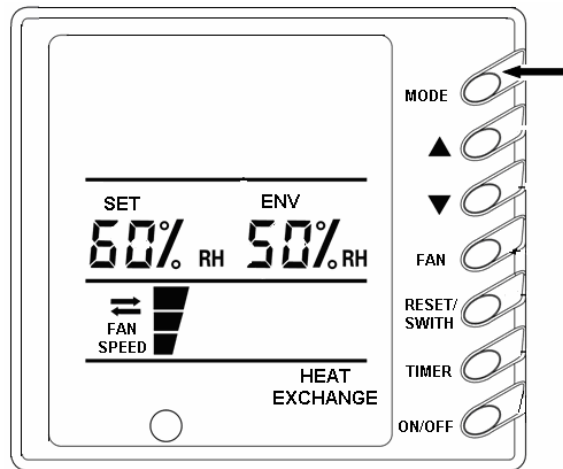

Fig.7
5) Running Mode Setting (Fig.7)